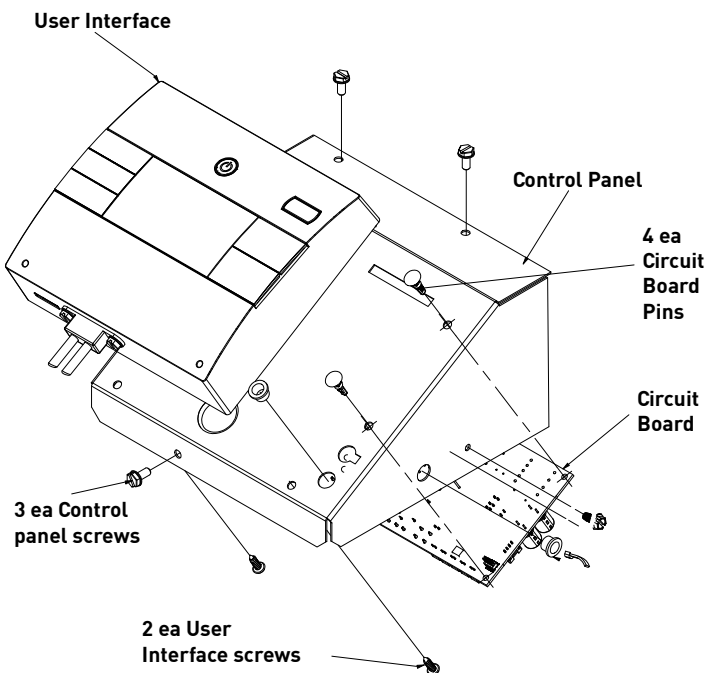

Figure 718
7. Carefully depress 2 black tabs by squeezing towards the bottom of the interface you. Refer to Figure 718. Inspect ribbon cable for obvious signs of damage.